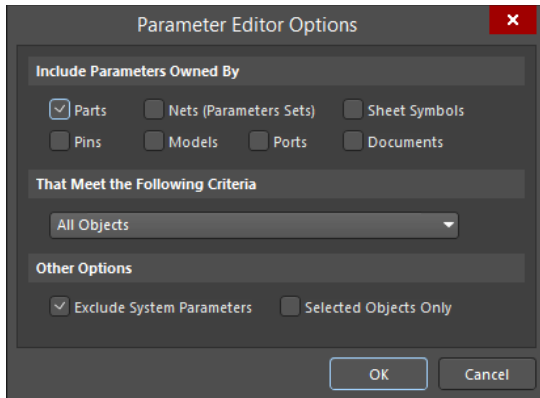

Figure 4. Parameter Editor Options
26. In the *Parameter Editor Options* dialog, disable all options in the *Include Parameters Owned By* section except for **Parts** and then click **OK**. See Figure 4.